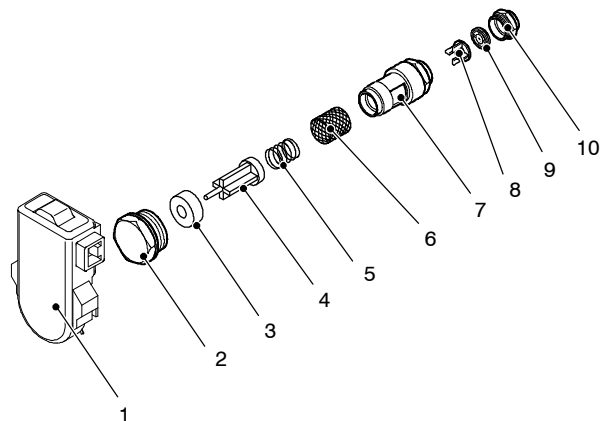

Fig. 59
When the flow rate through the d.h.w. circuit reaches about 2,5 litres/min', the float 4 (Fig. 59) is drawn towards the right. The resulting magnetic field of ring 3 increases and reaches the flow switch sensor 1. The sensor generates an electrical signal that switches the boiler d.h.w. operation ON.
15.2 Nomenclature and location of parts (Fig. 59)
- 4 Unscrew the plug 2 (Fig. 59) and extract the flow switch group.
- 5 To remove the filter from the flow switch group separate the body 7 from the plug 2 (Fig. 59) by unscrewing it.
Attention: the ring 3 (Fig. 59) has a magnetic polarity and must be correctly coupled with the spindle of the float 4.
- 2 Unscrew the threaded ring 10 (Fig. 59) and remove it from the body 7.